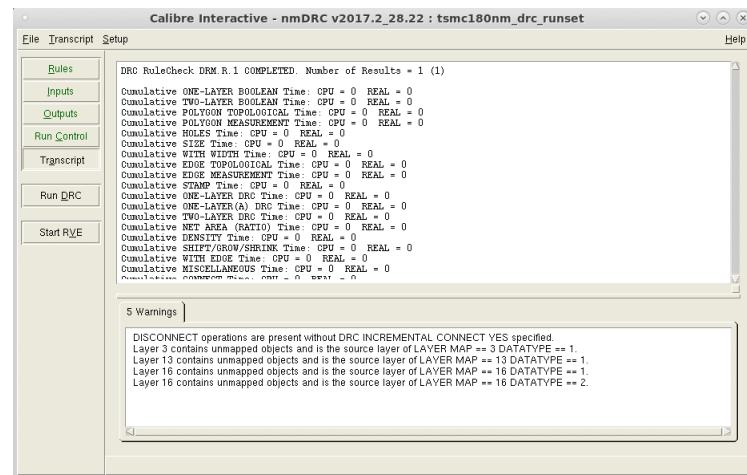

Figure 14: Calibre nmDRC main window.
2. The Calibre nmDRC window now appears (Fig. 14). Normally, you should not have to modify anything on the nmDRC window. You can take a quick look at the different DRC settings to understand better how the tool works. For instance, if you click on *Rules*, you can see what calibre rule file is selected to check your layout, as well as the different layers derivations.